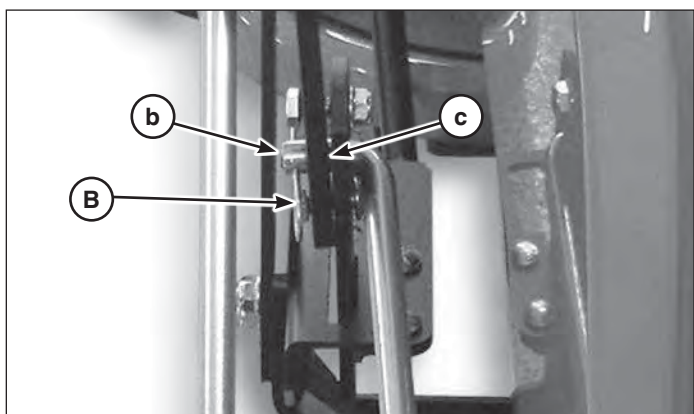

Figure 23
2. Install the hook end (**b**, Figure 23) of the short lift bar assembly into handle/lift support assembly (**c**).